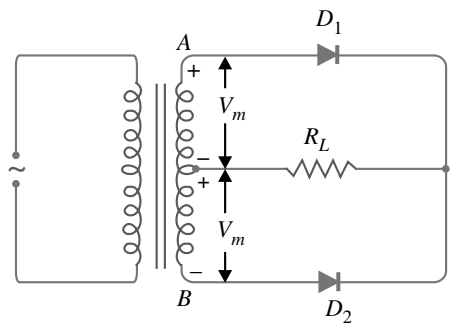

Fig. 4.32
**Peak inverse voltage.** Suppose  $V_m$  is the maximum voltage across the half secondary winding. Fig. 4.32 shows the circuit at the instant secondary voltage reaches its maximum value in the positive direction. At this instant, diode  $D_1$  is conducting while diode  $D_2$  is non-conducting. Therefore, whole of the secondary voltage appears across the non-conducting diode. Consequently, the peak inverse voltage is twice the maximum voltage across the half-secondary winding *i.e.*